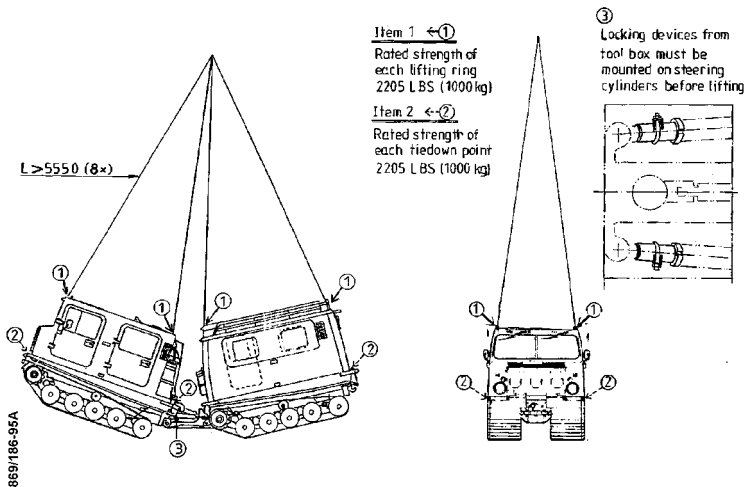

Fig 24. Sling lifting with crane
7. Prepare and attach the lifting slings according to the figure 24 (also found at the instruction plate inside front car ceiling).